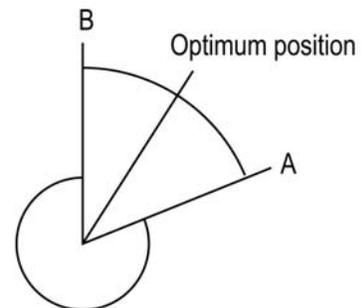

Figure 25 Adjusting Low Track Sensor
3. In the presence of the object to be detected, turn the trimmer clockwise and find point A (refer to Figure 25) of the trimmer at which the red LED (operation indicator) lights.